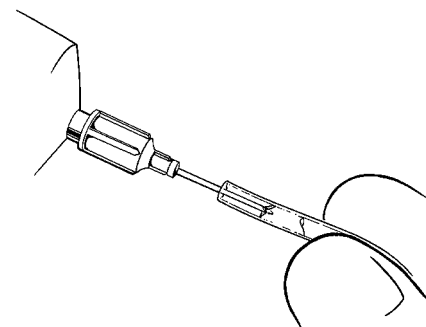

Figure 4-22. Flush Tubing
3. Use a 22-gauge blunt tip needle to flush tubing ends (**Figure 4-22**) with normal saline to remove particulate matter and air before connecting.